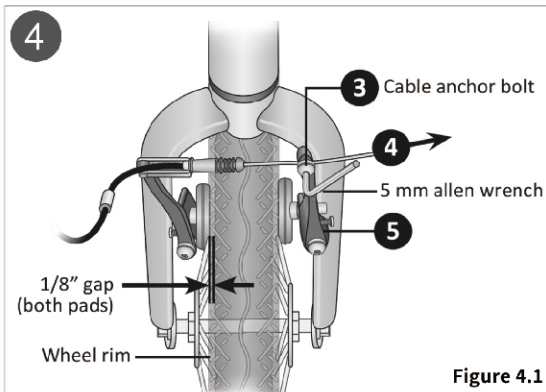

Figure 4.1
- ① Check the brake cable is seated in the brake lever. Using a 5 mm allen wrench loosen the cable anchor bolt enough so the brake cable can move freely. Figure 4.1
- ② Pull the brake cable through the cable anchor so the left brake arm moves towards the rim and there is approximately a 1/8" (3 mm) gap between the brake pad and rim.
- ③ Move the right brake arm towards the rim until there is approximately a 1/8" (3 mm) gap between the brake pad and rim.
- ④ Using the 5 mm allen wrench, firmly tighten the cable anchor bolt completely.